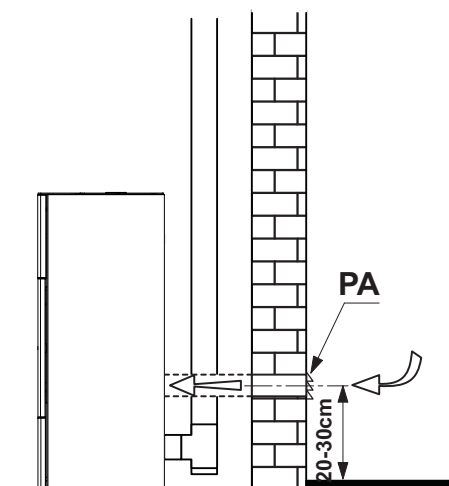

Fig. 5.3
- ! During operation the stove takes in a certain amount of air from the room where it's installed (except for the "Ermetica" series products that can take in air directly from the outside); this air must be replaced through an opening to the outside from the room (Fig. 5.3 - PA = Fresh air vent).